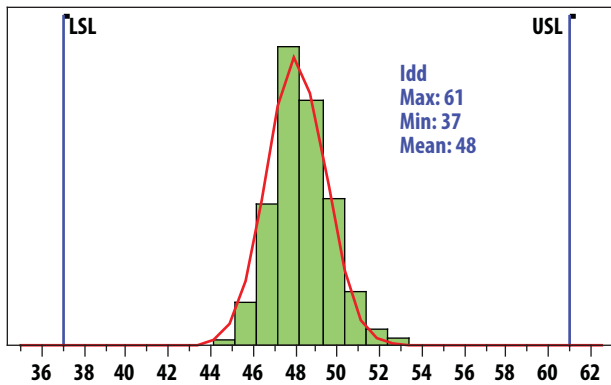

Figure 1. Idd @ 1.9GHz, 5V, 48mA Mean = 48
RF performance at T_A = 25°C, V_{dd} = 5V, R_{bias} = 5.6 kOhm, 1.9 GHz, measured on demo board in Figure 1 with component listed in Table 1 for 1.9 GHz matching.
1. Measurements at 1.9 GHz obtained using demo board described in Figure 1.